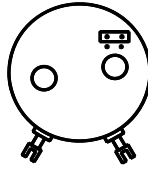

Fig.8: "80°-170° "
- Jumper on top for measuring range between 80° and 170° (fig. 8)